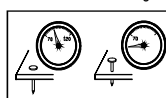

Fig.6
9. Test for proper fastener penetration by driving nails into a sample piece of wood. If the fasteners do not achieve the desired penetration, adjust the air pressure to a higher setting until the desired penetration is achieved. Do not exceed 110 PSI (7.6 bar) at the tool. (See Fig. 6)